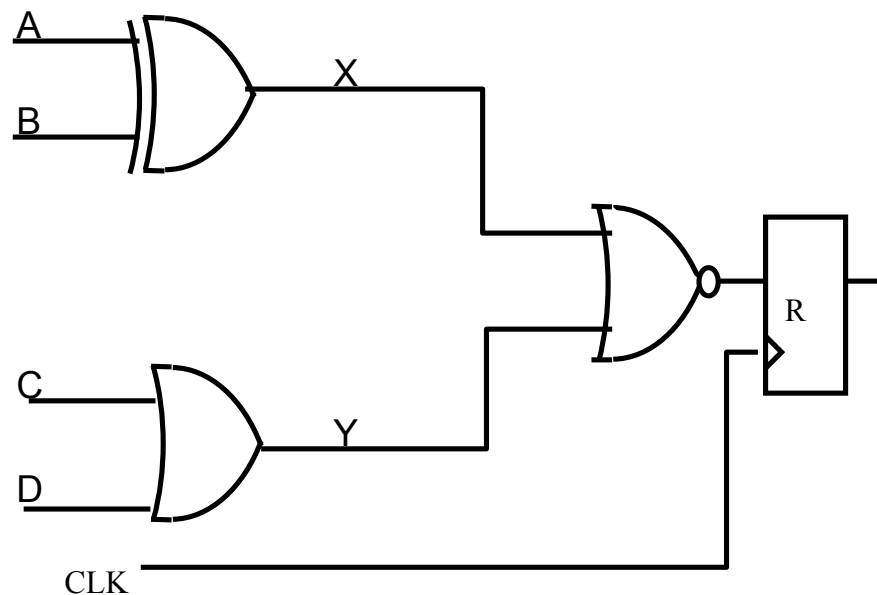

Figure C2(b)
- (b) With reference to the circuit shown in Figure C2(b), calculate the average dynamic power consumption of the circuit by considering that the primary inputs are independent and uniformly distributed. Use the following data: